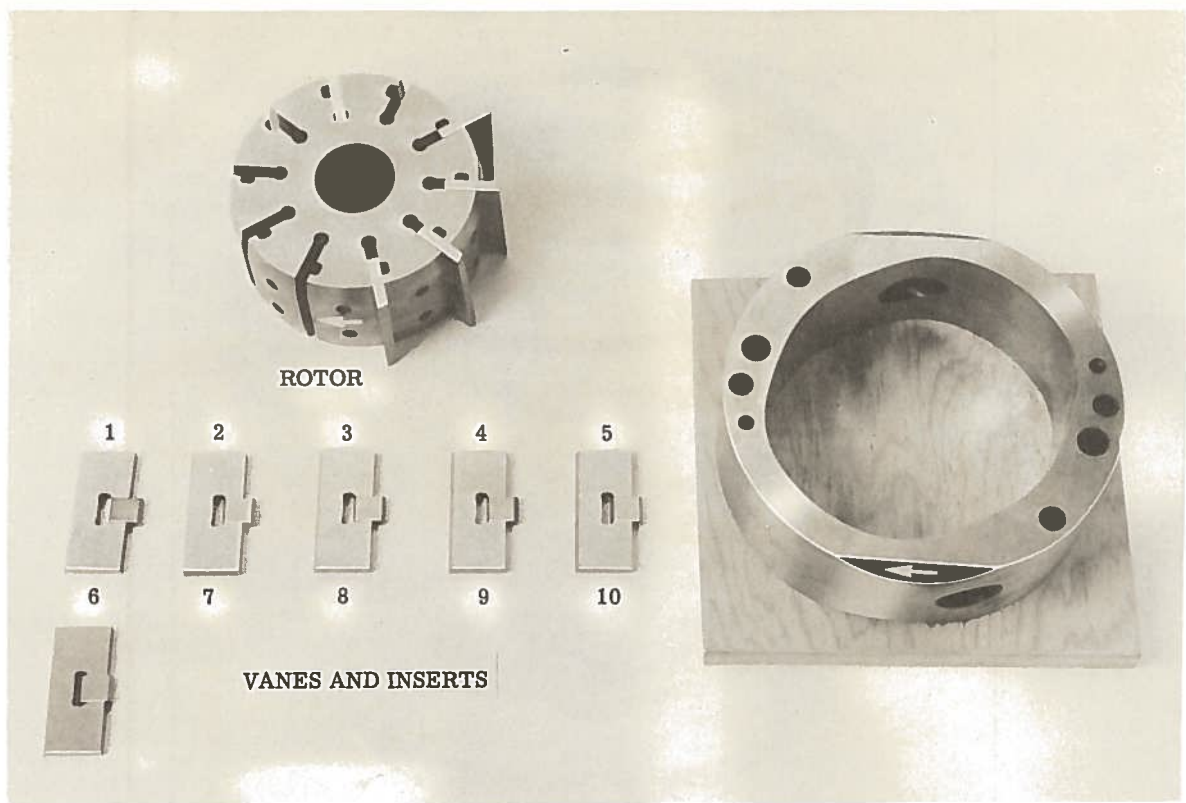

Figure 18 - Sequential removal of vanes from rotor,
Remove the cam ring from the rotor and vanes. Locate the arrow stamped into the rotor periphery. Remove the vanes and inserts in order, starting at the arrow. Keep them in order for inspection. (See figure 18).
c. For right hand rotation units, set the rotor on the flat wooden board with the arrow pointing right. (For left hand rotation the arrow should point left.) Assemble the vanes and inserts into the rotor in reverse order. (See figure 18). Make sure the sharp chamfer edge of each vane leads in the direction of rotation. All vanes must move freely in the rotor slots with no evidence of bind.